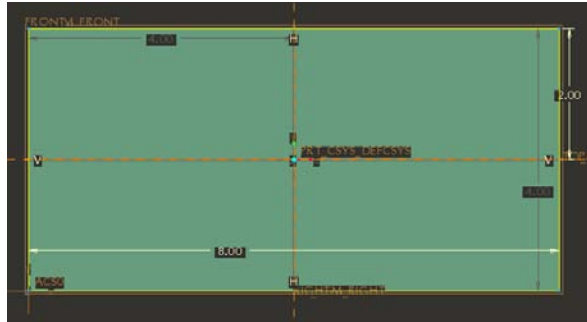
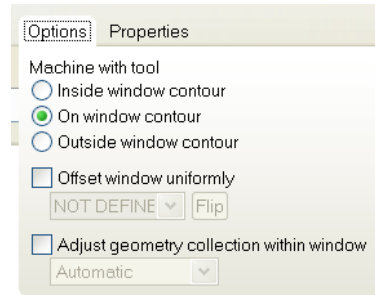

Figure 1.45
Figure 1.46
- Sketch a rectangle window 4" x 8" exactly on the top of the workpiece as shown in Figure 1.45. Click on . Click on Options and choose ON Window Contour as shown in Figure 1.46 and Click .